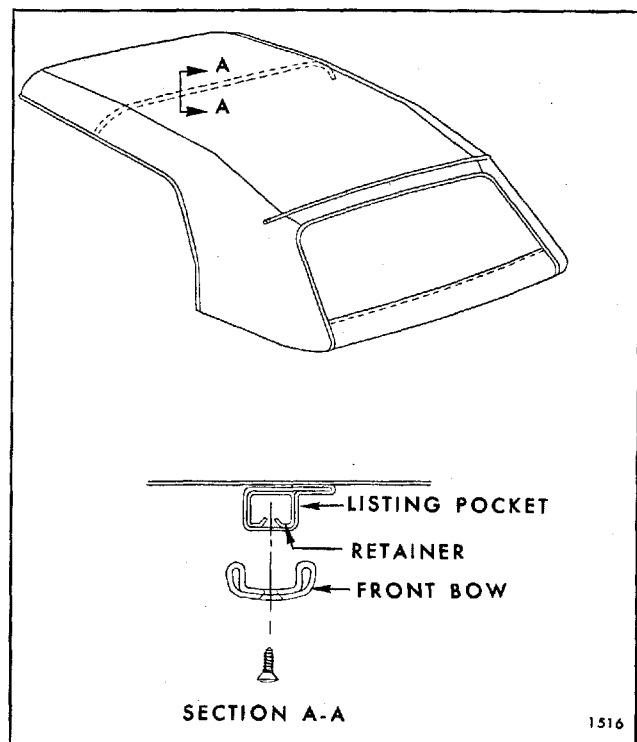

Fig. 6-25—Listing Pocket Retainer
32. Install front bow to listing pocket retainer attaching screws (Fig. 6-25).